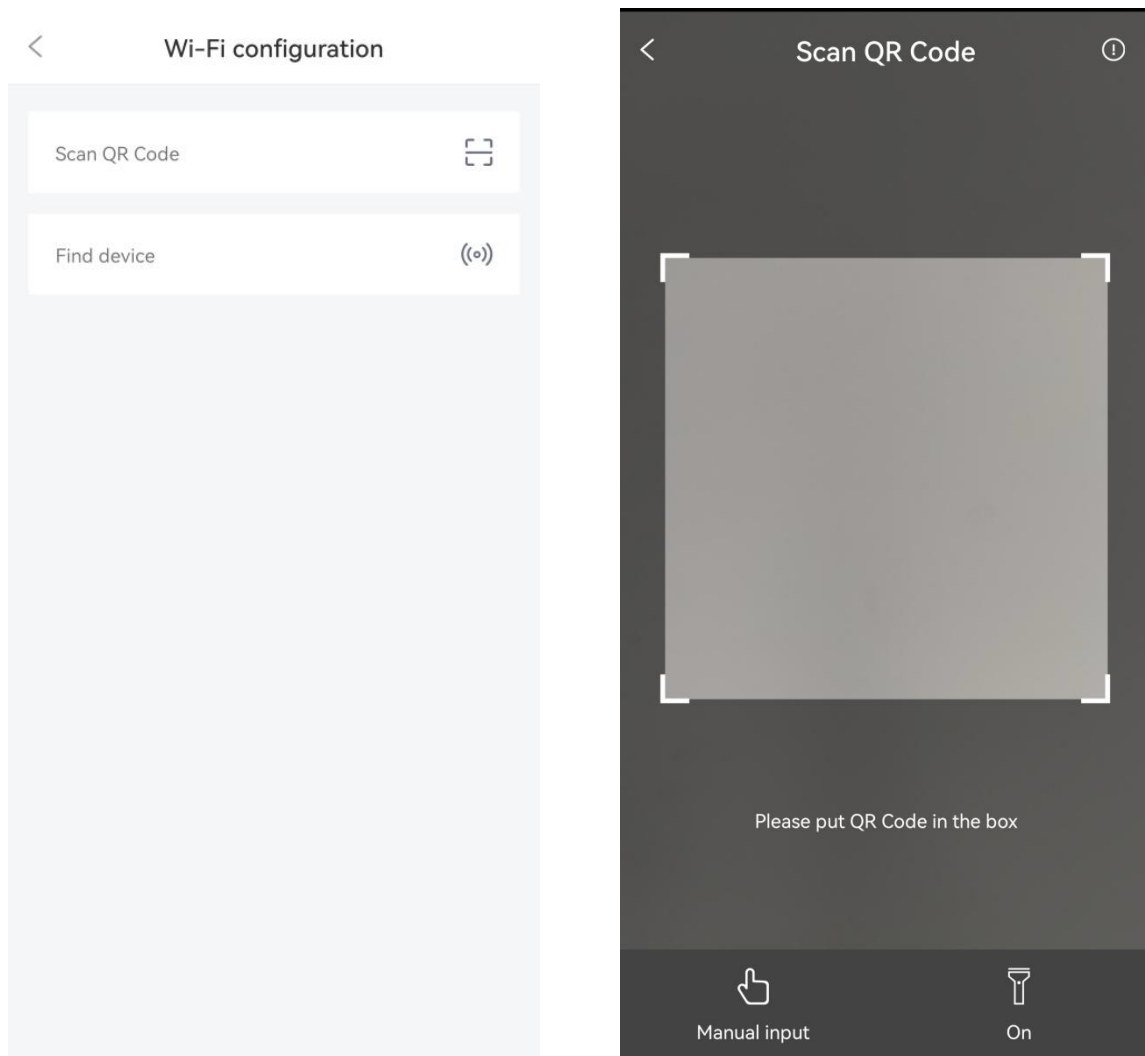

Figure 5-5 Scan the QR code of the device
7. You can quickly connect to the device by scanning the QR code (if the connection fails, see Section 5.1 to check the prerequisites), as shown in Figure 5-5.